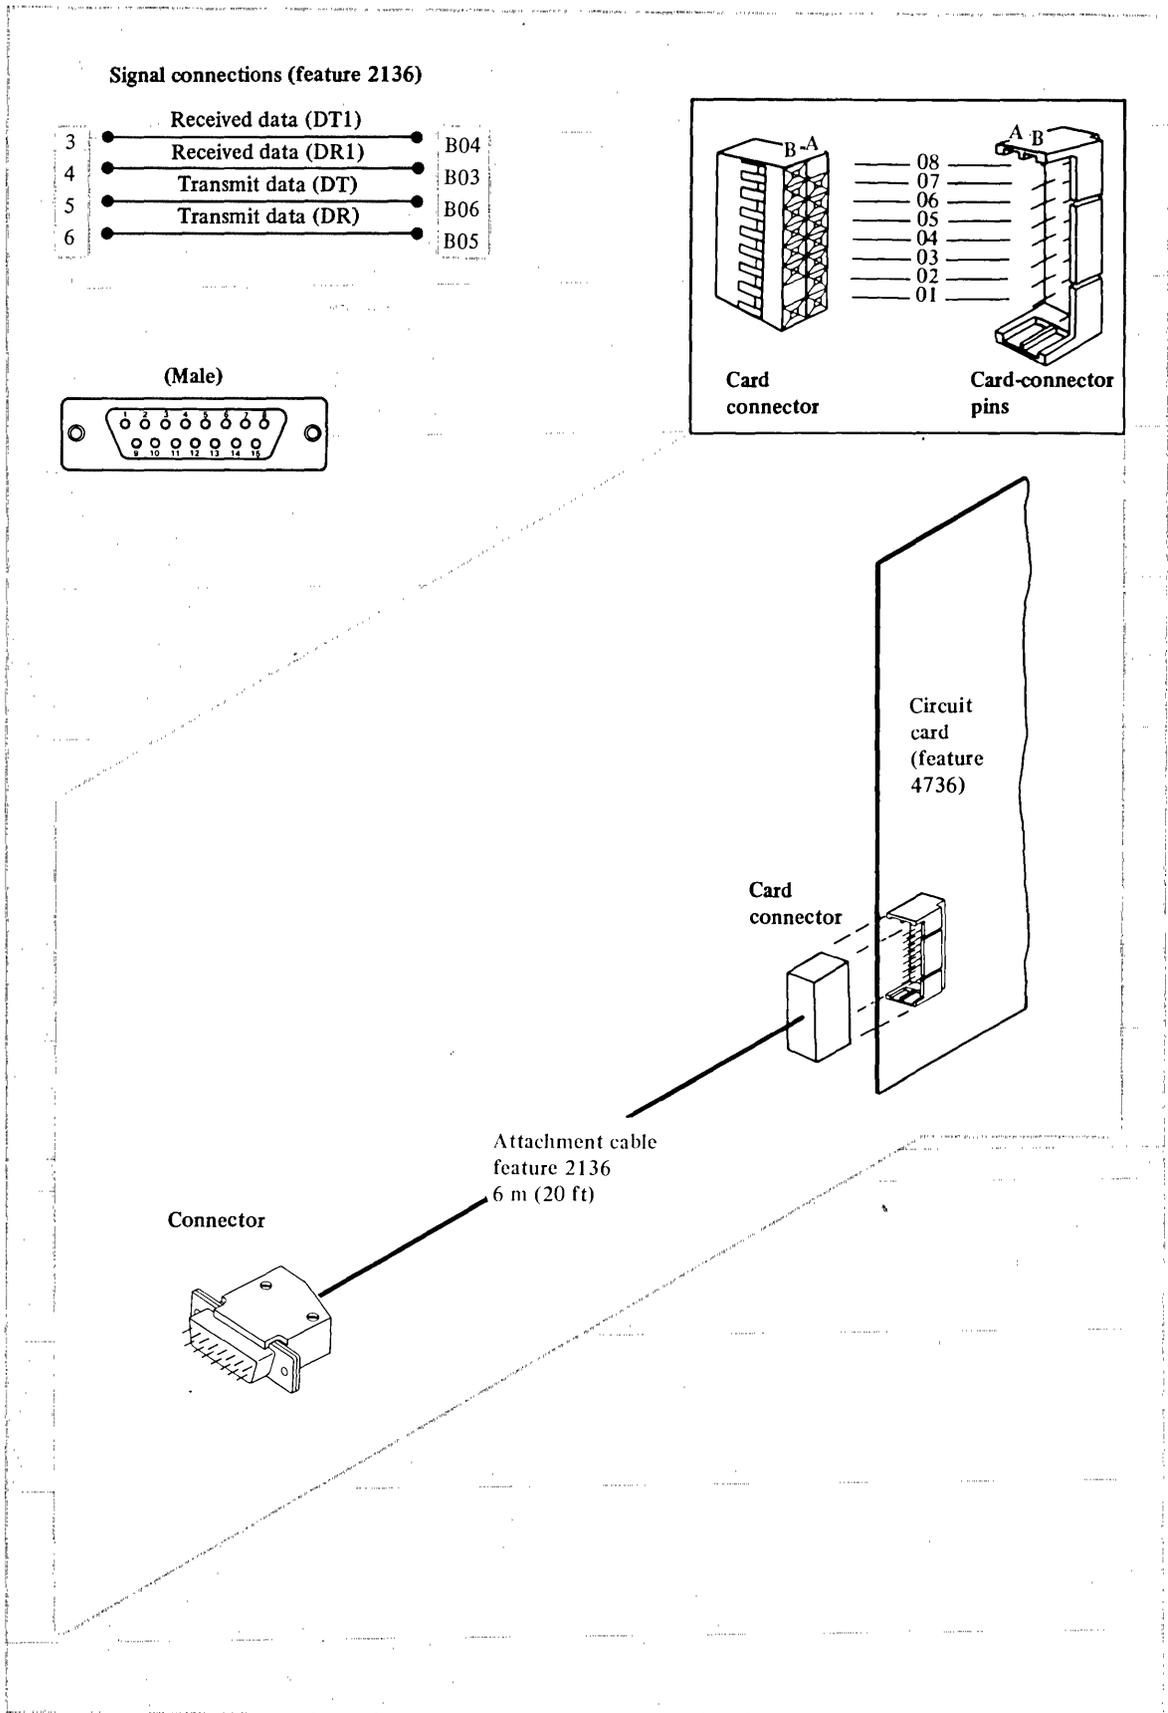

Figure 6-26. Cable and signal connections for DATA-PHONE Digital Service attachment feature
□ Cable connection from card to modem (see Figure 6-26)